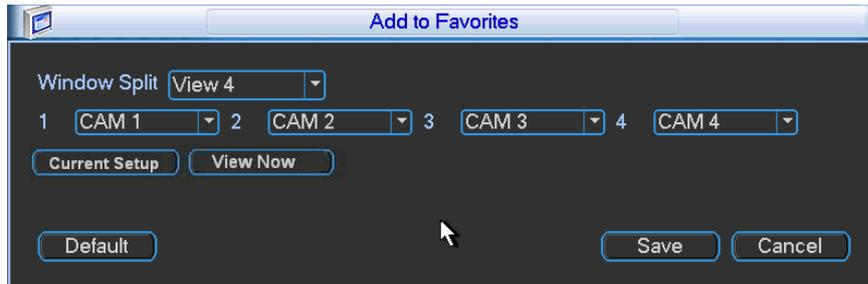

Figure 5-40
- Favorites: It is for you to set and save favorites preview setup. You can select different window display modes and then select corresponding channel(s). Please note for one mode, one channel can only be selected once. Click Setup button, you can see an interface shown as in Figure 5-40.